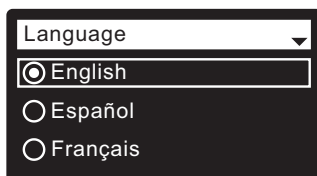

FIG. 12
- 1. LANGUAGE** If the desired language already has a dot next to it (See Figure 12), go to Step 2. Otherwise, press the filter’s DOWN (▼) or UP (▲) buttons to scroll to the desired language, then press the SELECT (○) button to choose it.